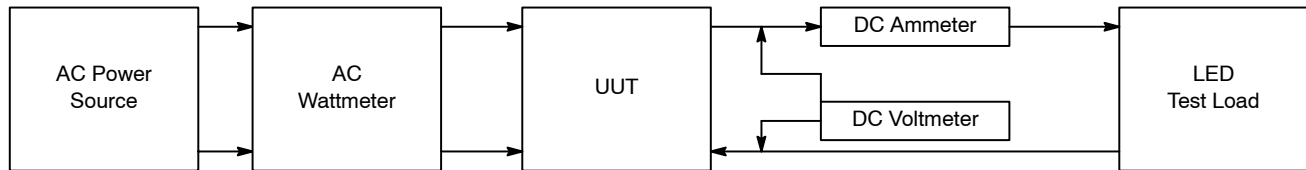

Figure 13. Test Set Up
1. Connect the Unit Under Test (UUT) per the test set up in Figure 13